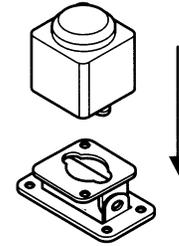

Fig. 2
3. Attach the camera to the camera mounting bracket. (Fig. 2) Route the camera cable through the mounting bracket, and align the mounting holes in the camera with the bracket. Secure the camera to the bracket with the 2 hex screws.